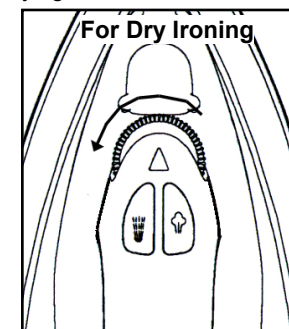

Fig. 1
1. Turn temperature dial to "MIN" and turn the variable steam control all the way to the left to "0". (Fig. 1)